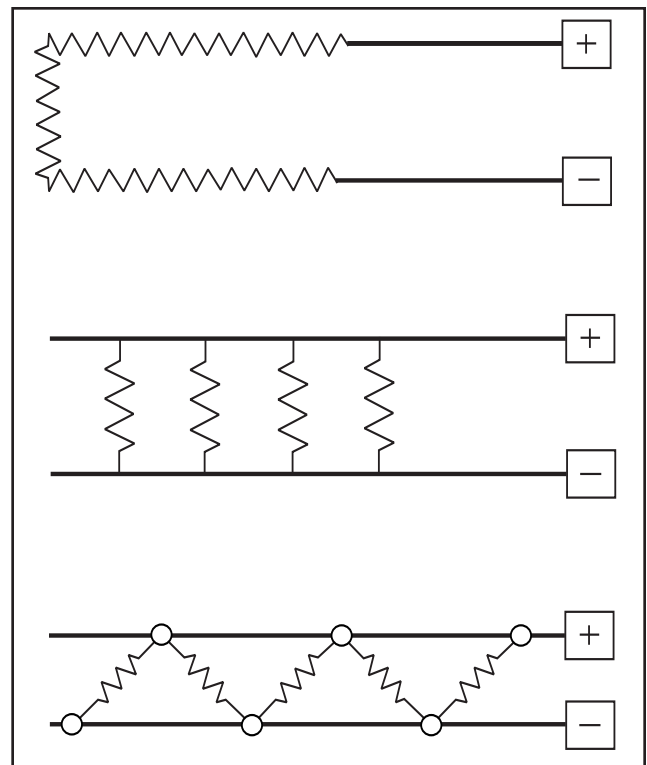

Figure 1.1(a)—Types of electrical heating
This standard describes procedures for the installation, testing, and documentation of electrical freeze protection and process heat tracing systems. Heat tracing cable types covered by this publication include: self-regulating heating cables, and mineral insulated (MI) heating cables (*see Figures 1.1(a)-1.1(e) on the following page*).